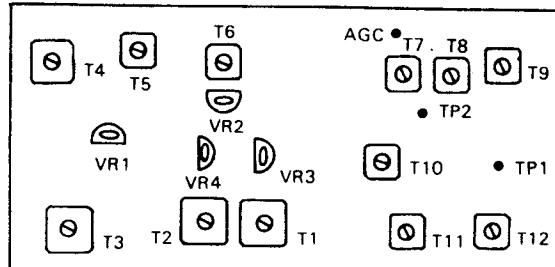
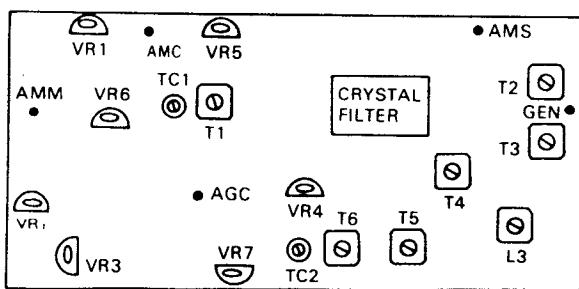

Fig. 18 RX-NB unit
Fig. 19 GEN unit
Decrease the SSG output gradually until AGC disappears. Adjust T4, T5 and T6 (of the GEN unit, Fig. 19), T1, T2, T3, T4, T5, T6, T7, T8 and T9 (of the RX NB unit, Fig. 18) in such a way that the pointer of the AF VTVM will deflect to the farthest possible position on the scale. Hold the SSG output always at such a level as will not cause the "S" meter pointer to deflect.
- 1) Connect the vacuum-tube voltmeter to TP3 (Fig. 18).
- 3) Minimize the DC voltage at TP2 by adjusting T8 ~ 10 (Fig. 18).
- 1) Adjust VR4 (Fig. 18) to make the pointer of this meter stay at "0" on the scale in the condition of non-reception of the signal.
- 4) Adjust VR2 (Fig. 18) to deflect the meter pointer to "9". Repeat the process, step 1) to 3), two or three times.
- 2) Adjust VR7 and TC2 (Fig. 19) to minimize and equalize the "S" meter deflection for the two sideband signals, USB and LSB.